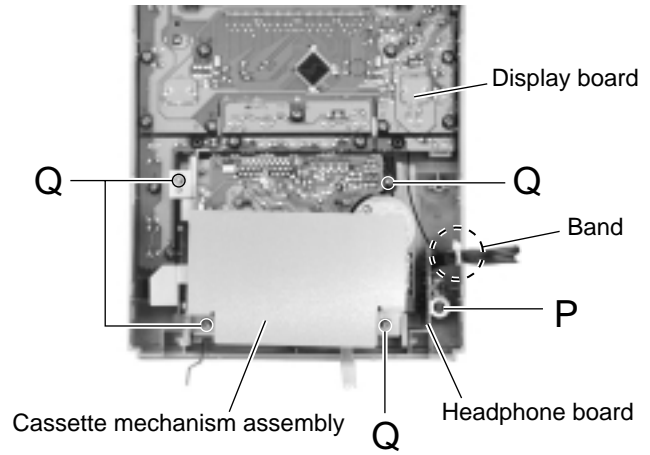

Fig.29
**(See Fig.29)**
**■ Removing the cassette mechanism assembly (See Fig.29 and 30)**